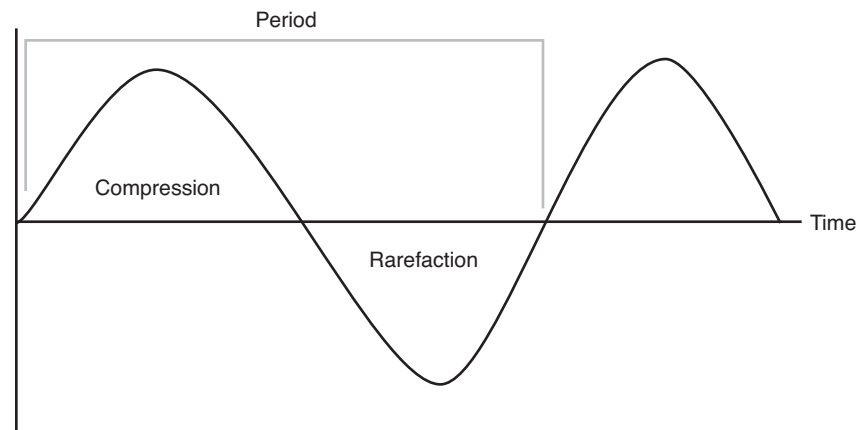

FIGURE 1-5 Period. Period is defined as the time it takes for one cycle to occur. One cycle consists of one compression and one rarefaction.
Period (T) is defined as the time it takes for one cycle to occur (Figure 1-5). Since period is measured in time units, it is most often described in microseconds (μs), or one millionth of a second (Table 1-4). Frequency (f) is defined as the number of cycles per second (Figure 1-6). Frequency is measured in hertz (Hz), kilohertz (kHz), or megahertz (MHz) (Table 1-5). Frequency and period are inversely related. Therefore, as frequency increases, the period decreases, and as frequency decreases, the period increases (Table 1-6). Their relationship is also said to be reciprocal (Tables 1-7 and 1-8). When two reciprocals are multiplied together, the product is 1. Consequently, period multiplied by frequency equals 1.